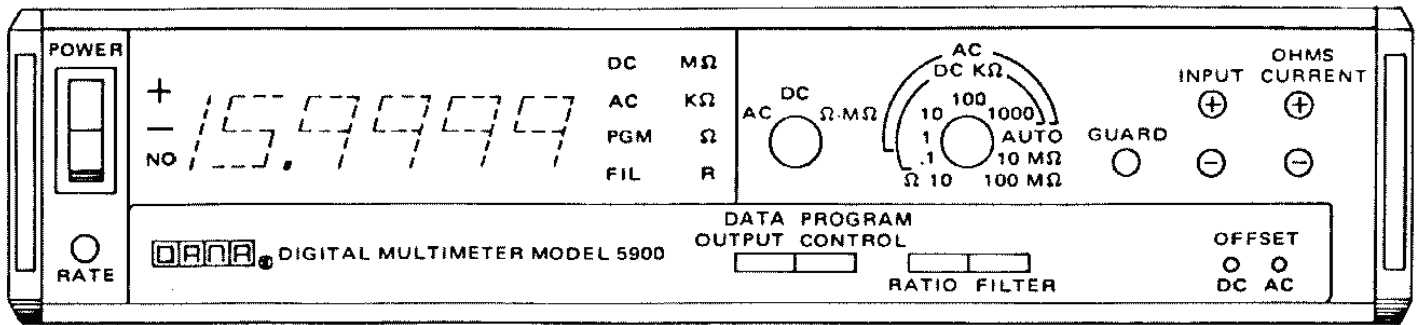

Figure 2.5 - Front Panel
2.20 All operating controls are located on the front panel of the instrument. They are shown in figure 2.5 and their operation described in table 2.1. Description of Systems operation begins in paragraph 2.44.